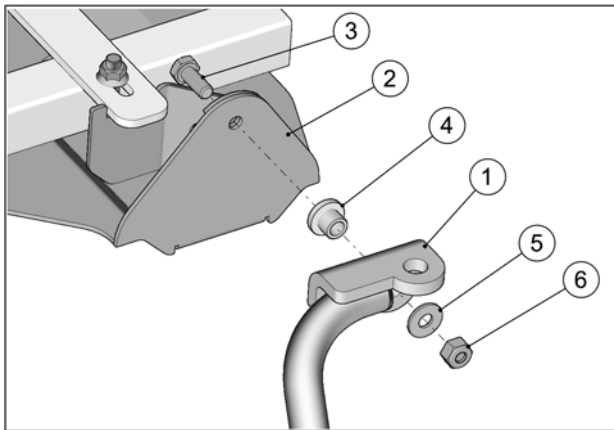

Fig. 10
9. Attach the rear suspension stabilizing rod (1) to anchor plate (2) using the bolt (3), bushing (4), washer (5) and nut (6). Torque to 50 N•m [37 lb•ft]. See Fig. 10